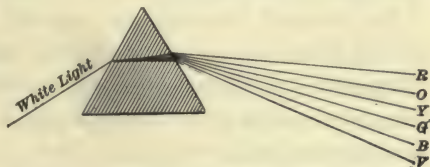

FIG. 139. — White light is a mixture of lights of rainbow colors.
**How to produce rainbow colors.** *The spectrum.* — When a beam of sunlight is admitted into a dark room through a narrow opening in the shade, and falls upon a prism, as shown in Figure 139, a beautiful band of colors appears on the opposite wall of the room. The ray of light which entered the room